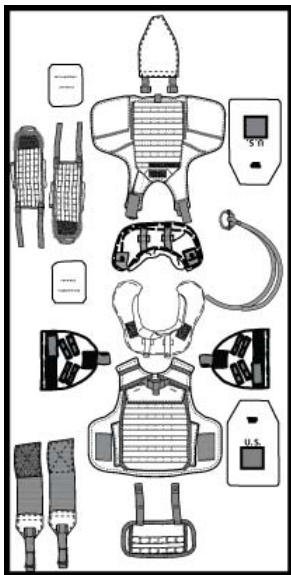
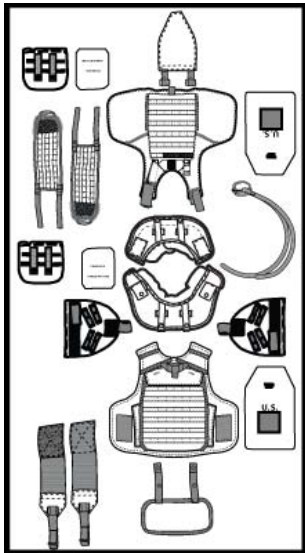

Figure 15. IOTV Inventory.
Figure 16. IOTV Gen II Inventory.
11. Inventory the body armor. Check the data label on each component to ensure each component is in the same size or size range (Figure 15 for IOTV, Figure 16 for IOTV Gen II). NMC if item sizes are mismatched.